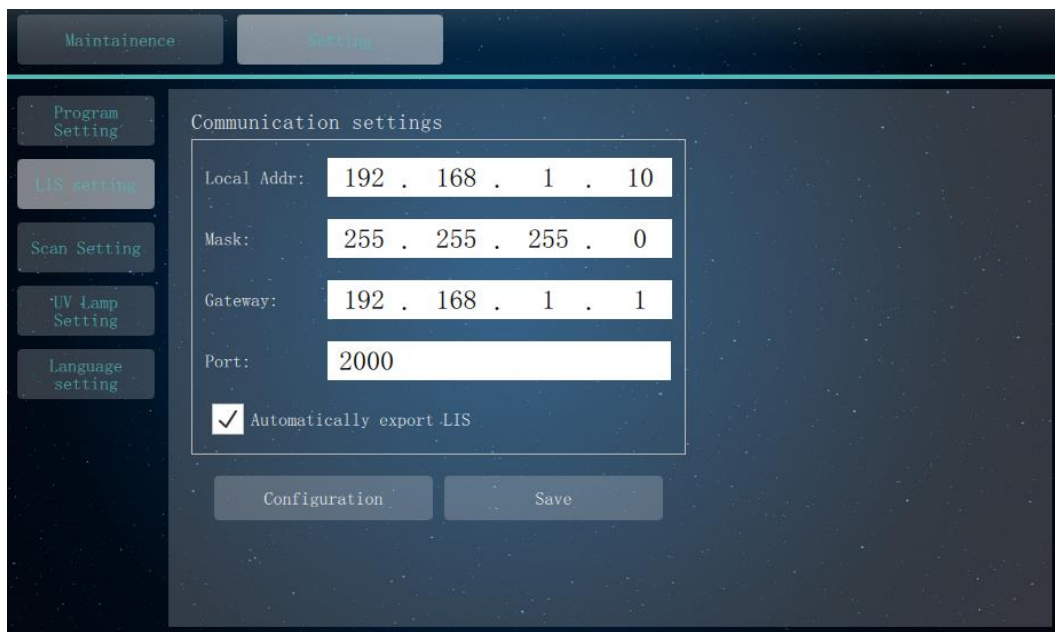

Figure 5-14b. Setting Subtab – Communication Setting
2. < **LIS Setting** >: User can click this function key for LIS communication settings, as shown in figure 5-14b.